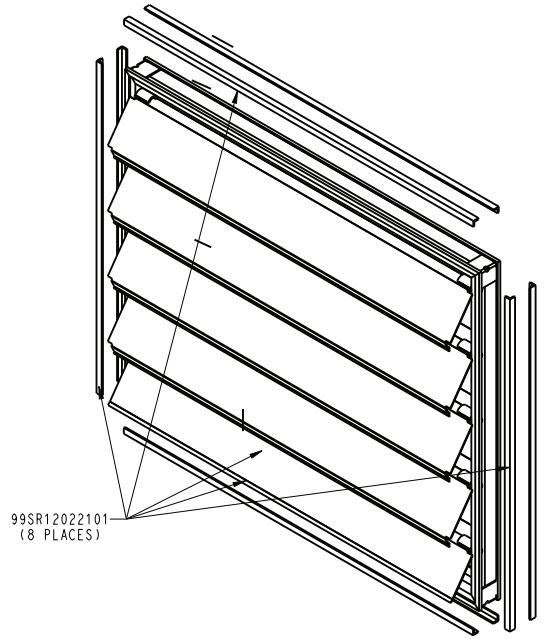

Fig. 69 — Installing the Gasket on the Damper
6. If a damper was ordered, install the gasket on the entering and leaving side of the damper as shown. Note, apply the gasket on both sides of the corner (90 degrees) by bending the gasket. See Fig. 69.